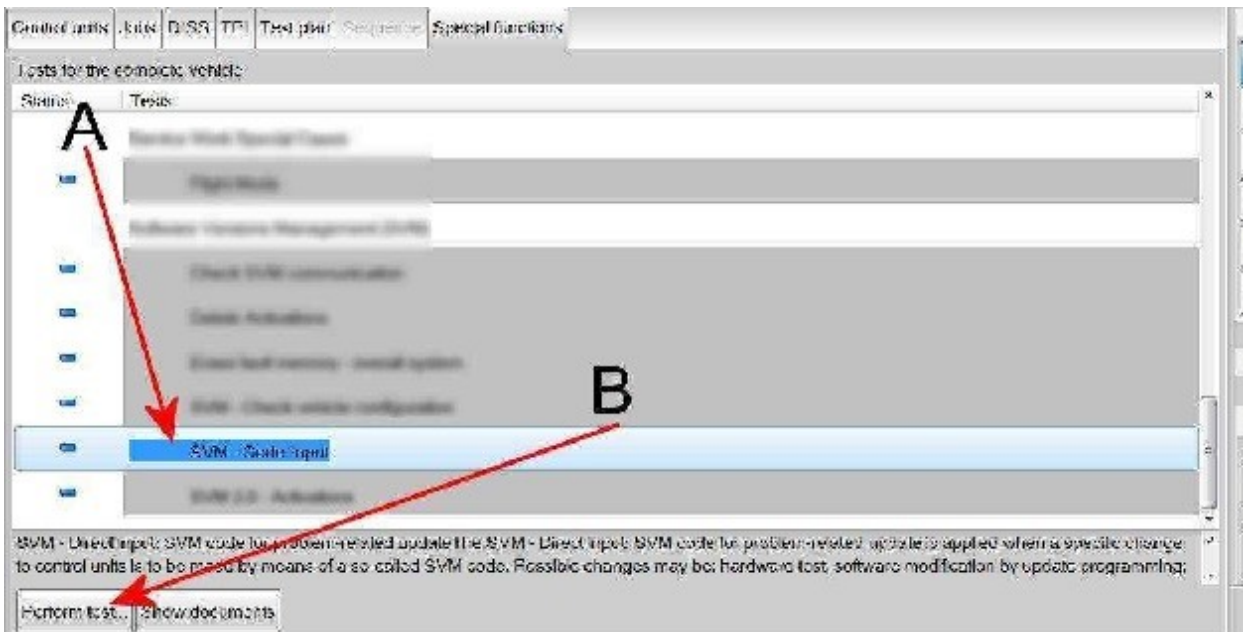

Figure 2
2) Referring to Figure 2 - Within the Special functions tab - Select SVM - Code Input (Point A)